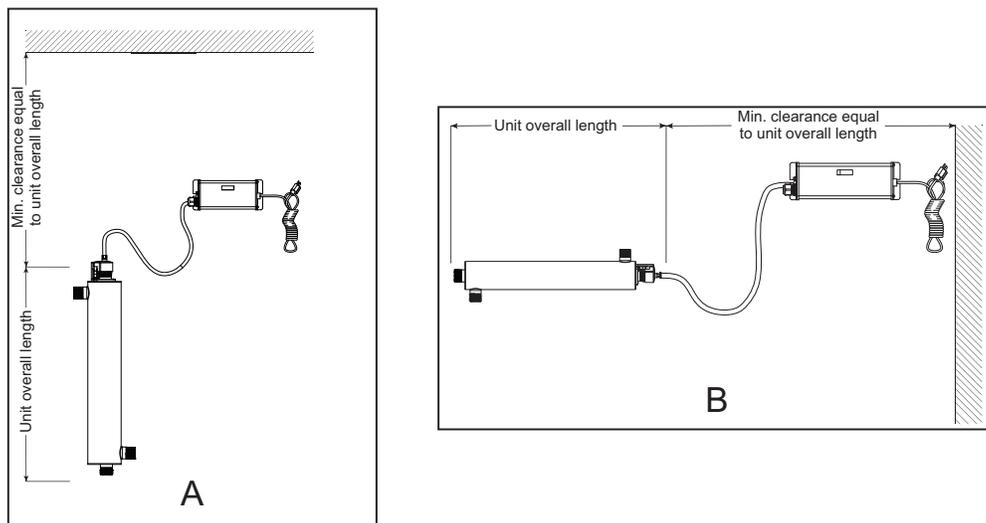

Figure 4 Disinfection Installation - Vertical and Horizontal
2. Select a suitable location for the disinfection system and its related components. As it is recommended to install a GFCI, make sure that this is taken into consideration prior to any installation. The system can either be installed vertically (inlet port at the bottom) as shown in **Figure 4 A**, or horizontally as shown in **Figure 4 B**. However, the vertical installation is the most preferred method. When selecting a mounting location, leave enough space to allow the removal of the UV lamp and/or quartz sleeve (typically leave a space equal to the size of the chamber itself).